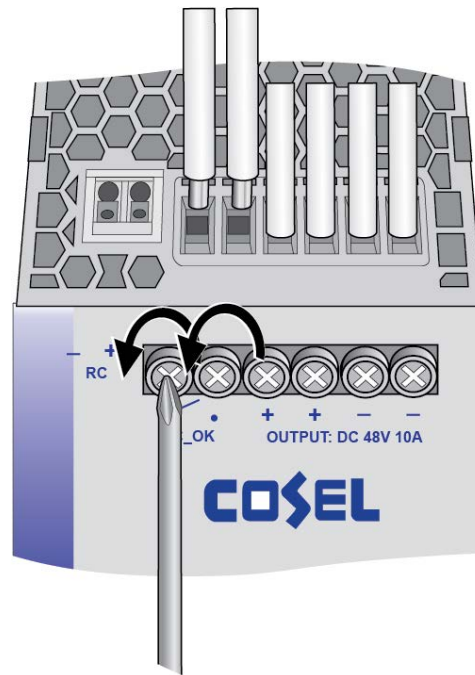

Figure 16. Wiring the DC\_OK Connector
2. Loosen the two DC\_OK connector screws on the front panel and insert the wires into the connectors on the top panel. Refer to Figure 16.